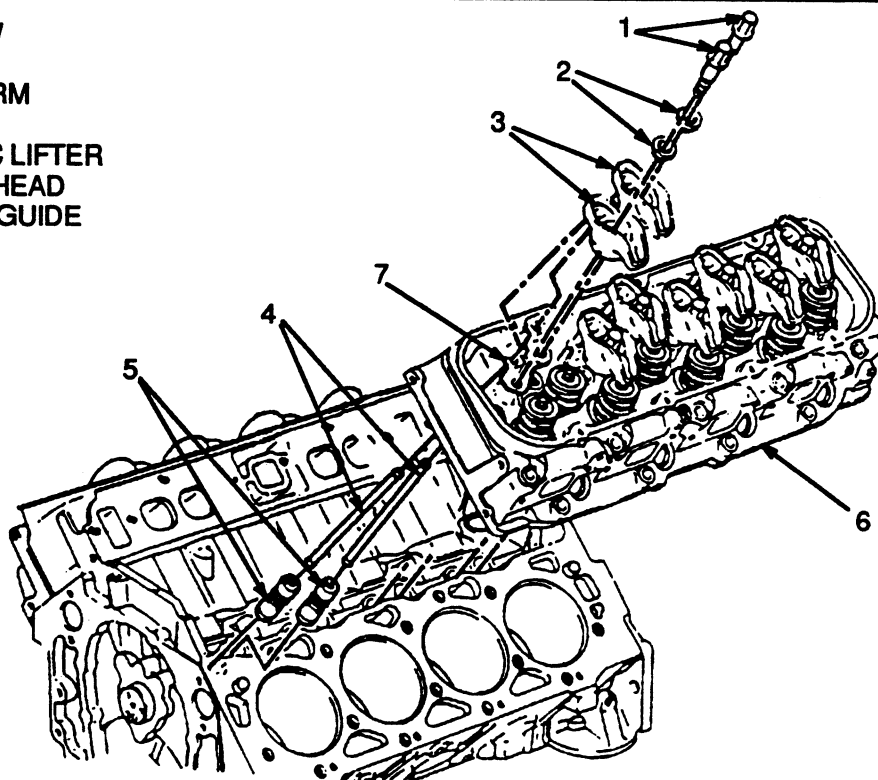

FIGURE 7. REMOVE THE VALVE TRAIN COMPONENTS AND CYLINDER HEAD
9. Disassemble the valve train. See FIGURE 7. Remove the capscrews, balls and the rocker arms. Remove the rocker arms. Keep the parts for each rocker arm assembly together. Mark the assemblies so that they can be installed in their original positions.